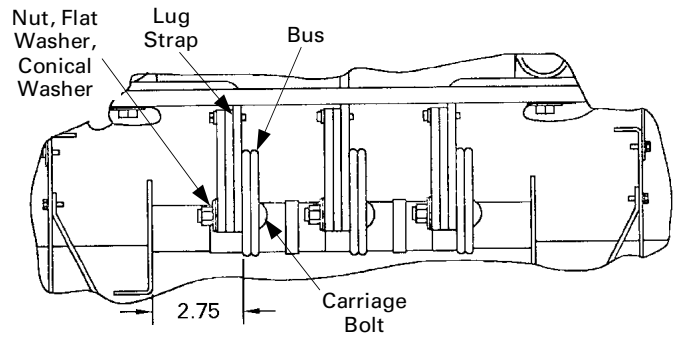

Figure 2. Lug strap positions relative to the bus bars of a Spectra APNB bolt-on interior.
- 2. Locate the mounting position.** For Spectra APNB bolt-on style interiors, locate the side of the panelboard interior in which the dimension from the nearest bus face to the inner face of the bus support rail is 2.75 inches, as shown in Figure 2. The lug straps will be mounted on this side of each phase of the bus.
4. Fasten the lug straps to the bus using a carriage bolt, flat washer, Belleville washer, and nut, as shown in Figures 2 and 3. Tighten these bolted connections to 200–250 in.-lb.